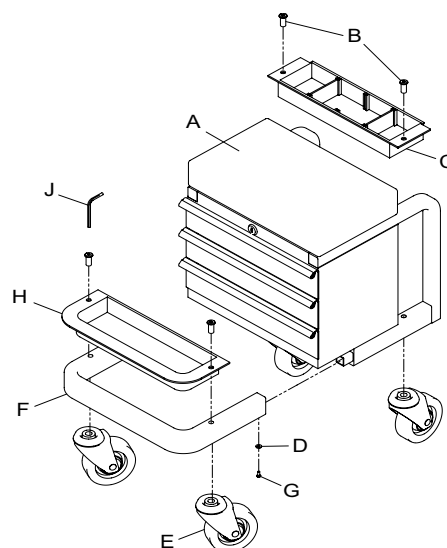

Figure 1 - Assembly
Before beginning assembly of product, make sure all parts are present. Compare parts with package contents list and Figure 1 illustration. If any part is missing or damaged, do not attempt to assemble, install or operate the product. Contact customer service for replacement parts.
## ASSEMBLY INSTRUCTIONS (ref. Figure 1)
1. Join frame sections by inserting front frame section (F) into channel sections of tool box subassembly (A). Line up screw holes and thread screws (G) fitted with washers (D) into corresponding holes in channel sections. Do not tighten screws yet.
2. Assemble a caster (E) and a tool tray (C or H) simultaneously. Position a caster stud into lower frame hole as seen in Figure 1. Place tool tray into position by aligning the lower frame thru-hole with corresponding hole in tool tray. Insert caster fastener into the swivel caster stud.
## OPERATING INSTRUCTIONS (Refer to Fig. 1)